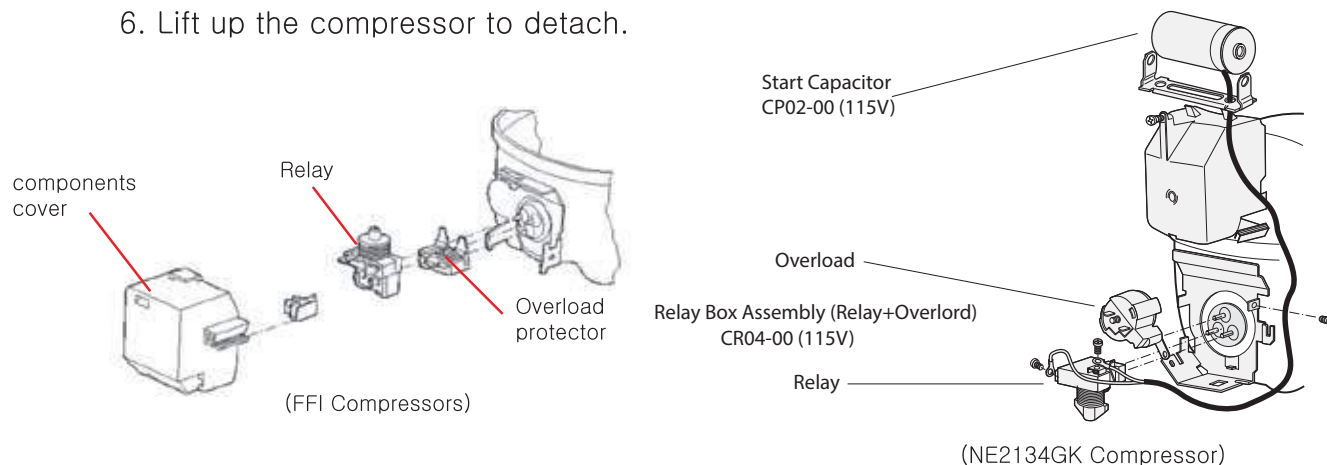

Fig 9-10
1. Open compressor's electrical components housing and remove the lead wire coupled into the power motor and other parts. This is connected to the relay and overload protector. (Fig 9-10)